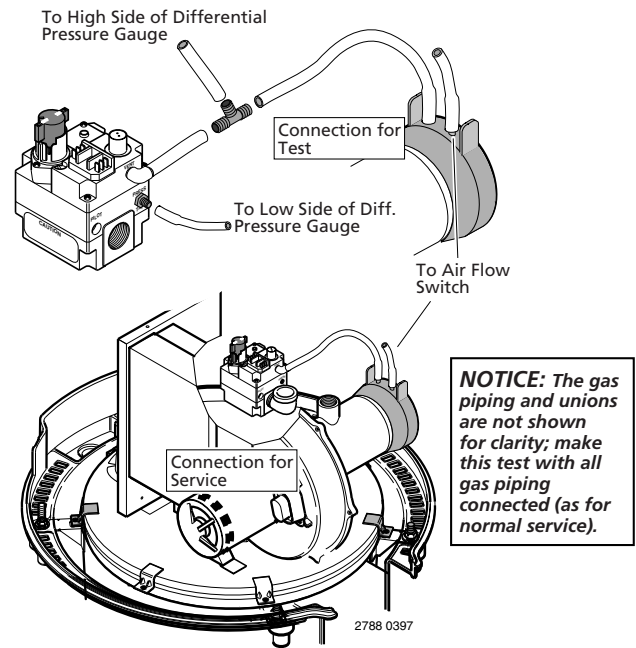

FIGURE 21: Connect Gas Valve to End Cap Air Orifice
The combination gas valve incorporates dual shut-off valves and a negative-pressure regulator. For proper operation, the regulated pressure at the outlet manifold of the valve must be 0.2 " wc below the reference pressure at the blower mixer inlet, and the gas valve 'VENT' tap must be connected to the endcap air orifice as shown in Figure 21 (above).
4. Disconnect the tube from the Gas Valve 'VENT' port. Connect it to a tube with a tee running to the high side of a differential pressure gauge and to the blower's air orifice grille (See Figure 21, above).